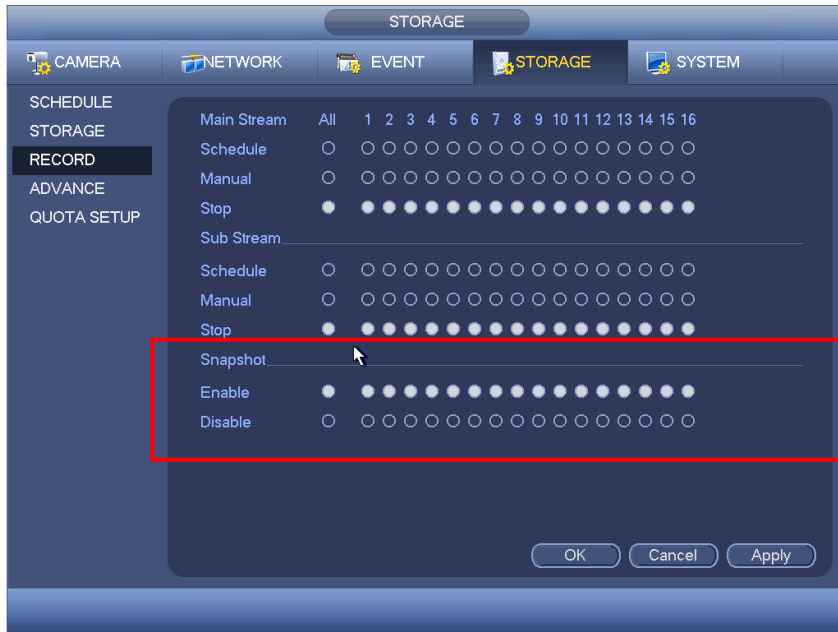

Figure 4-113
- On the preview interface, right click mouse and then select Manual->Record, or in the main menu, from Setting->Storage->Record, check the box to enable snapshot function of corresponding channels. See Figure 4-113.